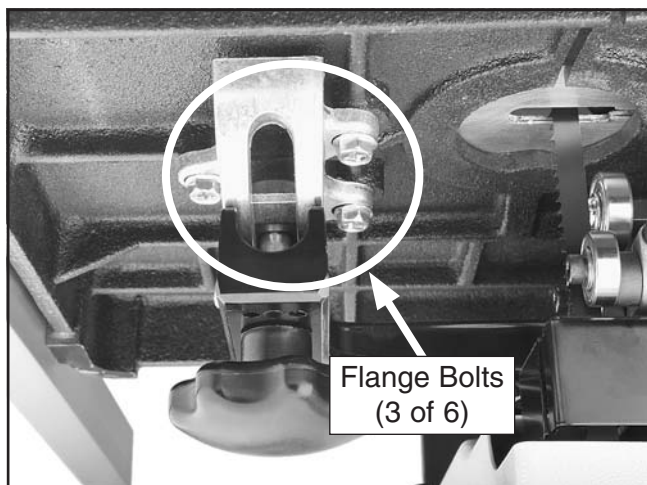

Figure 40. Location of trunnion bracket flange bolts.
- Loosen the six flange bolts that secure the table to the trunnion brackets (see **Figure 40**).